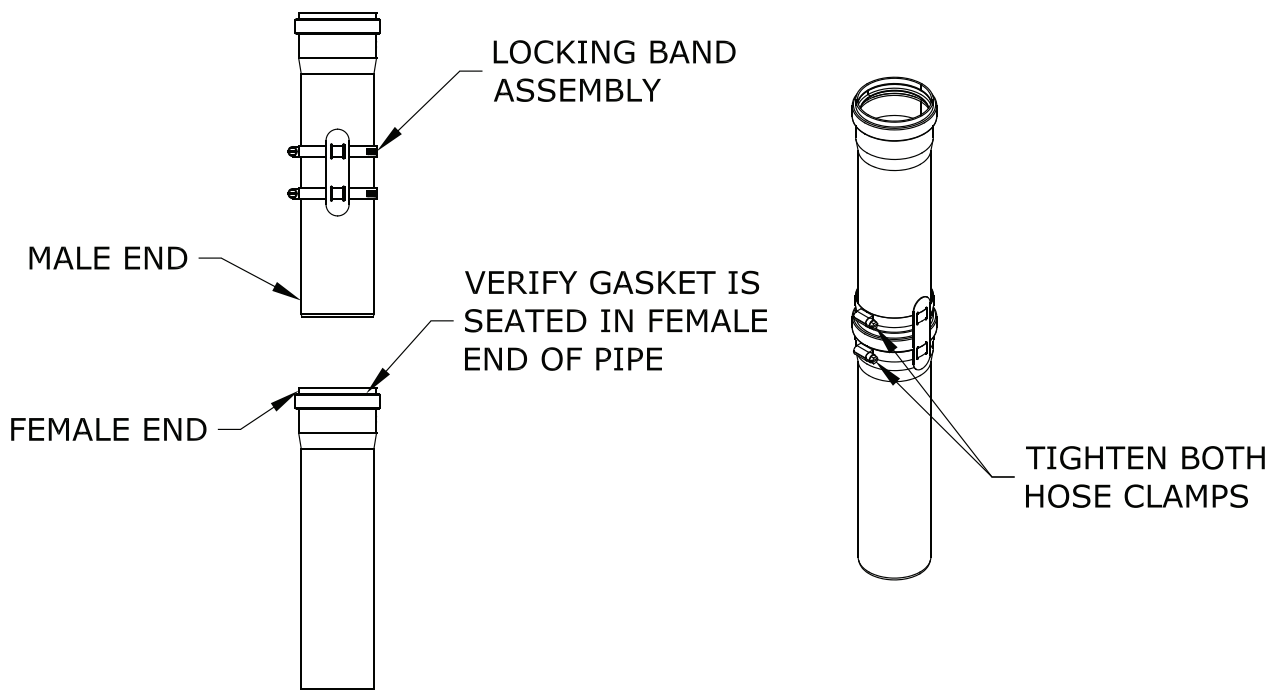

Figure 7.41: Polyflue Pipe Locking Band Installation
- c. For each joint, verify that the gasket is evenly seated in the bell (female) end of the pipe. Lubricate this gasket with mild soapy water. Slide a Pipe Locking Band over the male end of the pipe to be joined as shown in Figure 7.41. Push the male end of the next section of pipe into the bell until it bottoms out, then back out 1/8—1/4” to provide room for thermal expansion. Slide pipe locking band over the female end of the connections and tighten both hose clamps.